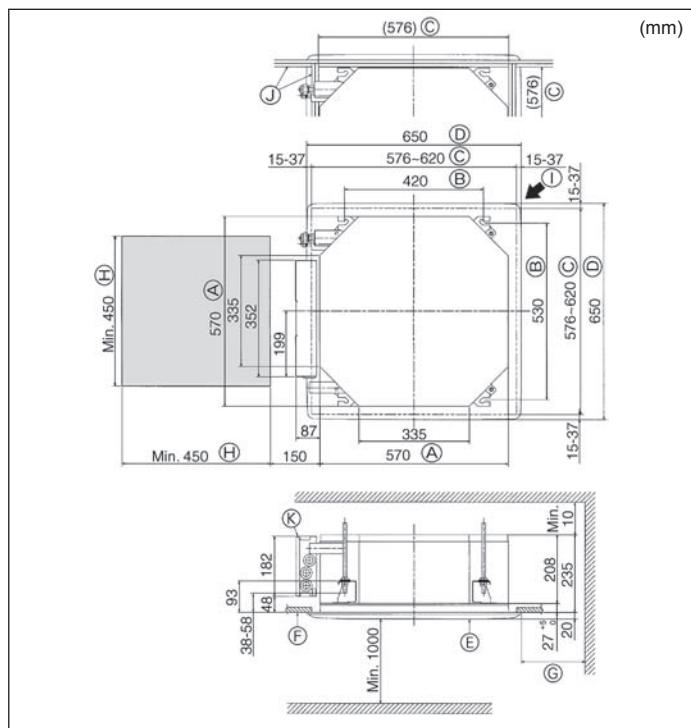

Fig. 4-2
⑫	Battely (AAA) (for SLZ-KA-VAL3)	2
⑬	Wireless remote controller (for SLZ-KA-VAL3)	1
4.2. Ceiling openings and suspension bolt installation locations (Fig. 4-2)